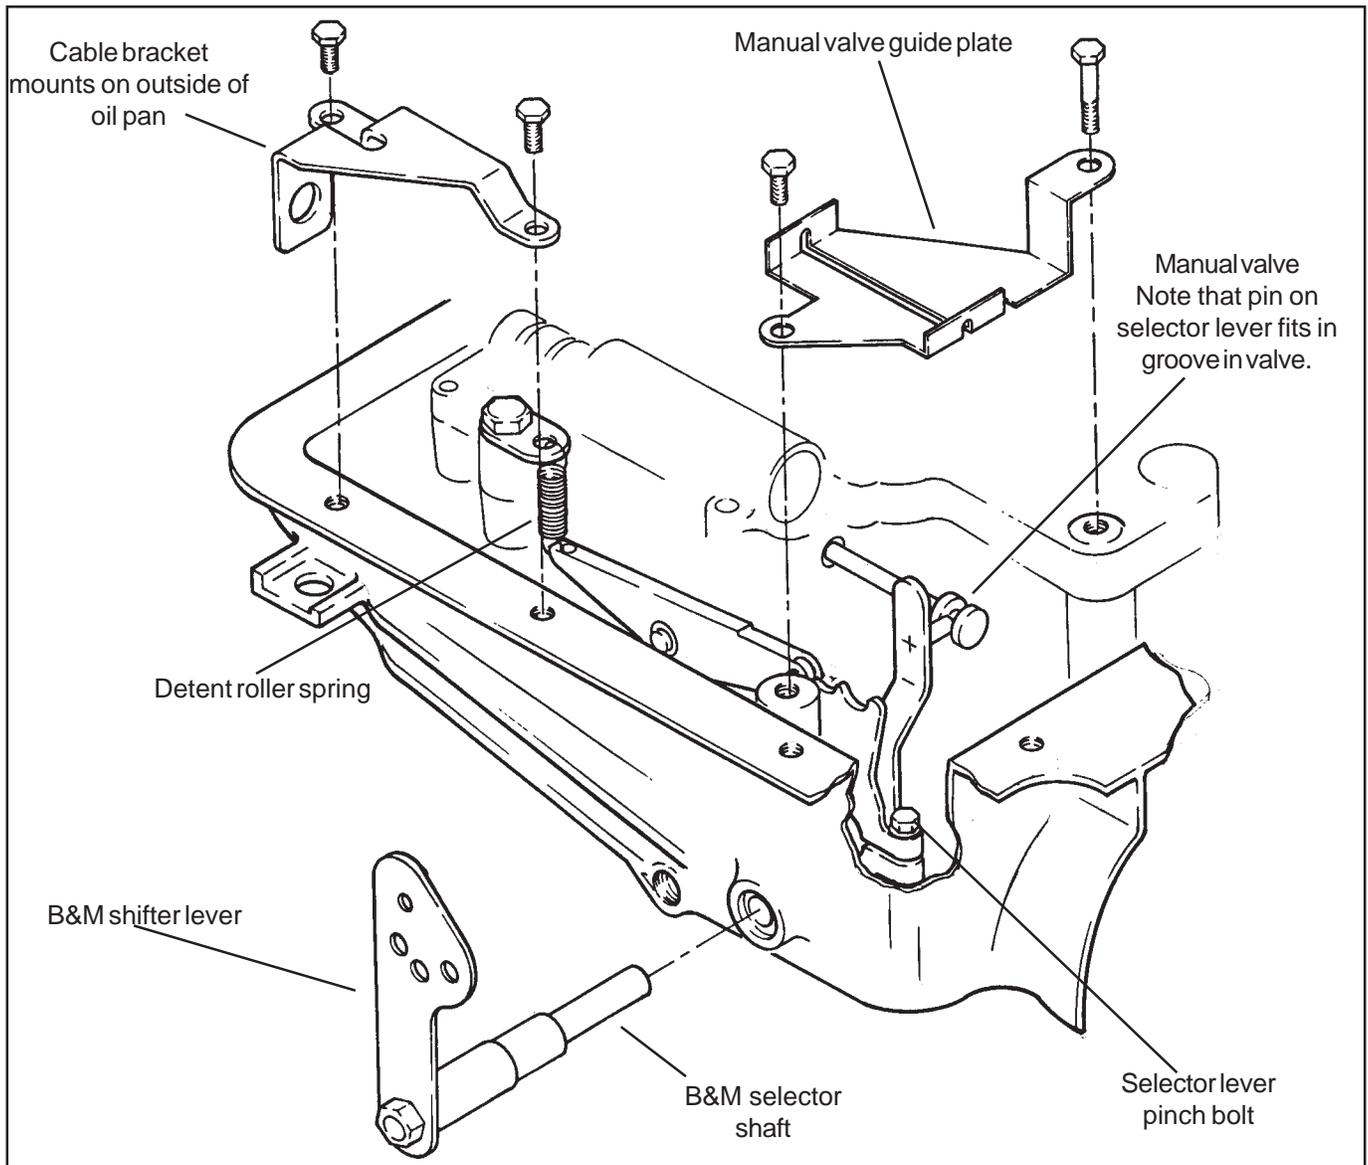

Figure 8
**Step 27.** Remove the manual valve guide plate by removing the two bolts (**See Figure 8**). Unhook and remove the detent roller spring. Allow the detent roller to pivot out of the way. Note how the pin on the manual valve selector engages the groove in the manual valve.
**STEP 33.** Install the cable bracket into position with the two remaining pan bolts (See Figure 8). Install the B&M lever onto the shaft with the lever pointing down. If your cable comes from the front (usually a rear engine car) the lever is installed pointing upwards. You will have to make your own cable bracket for this installation.